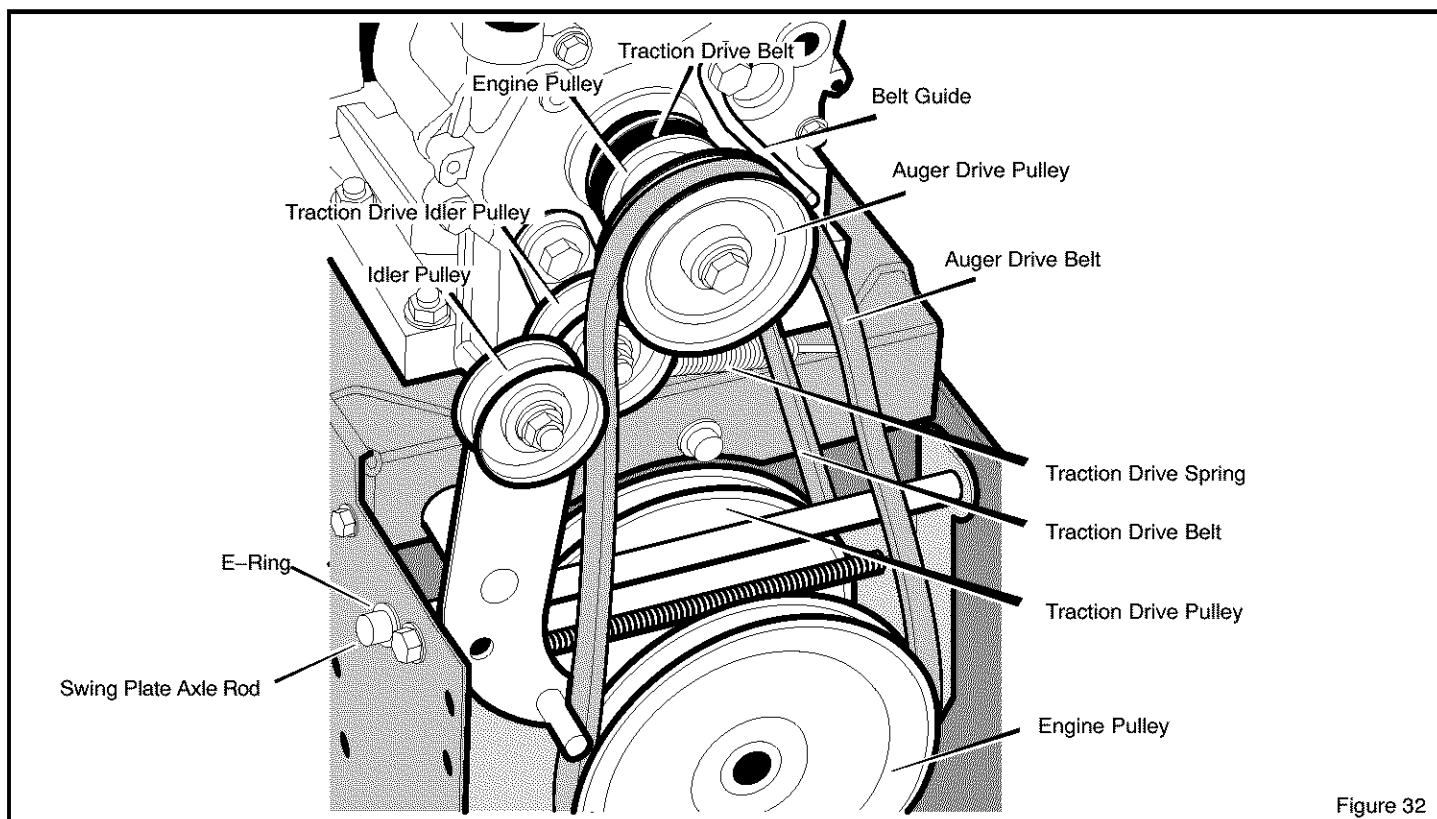

Figure 32
3. Loosen nut on auger idler pulley and move auger idler pulley towards belt about 1/8 inch (3 mm) (see Figure 32).
5. Loosen the **belt guide**. Pull the **belt guide** away from the **auger drive pulley** (see Figure 32).
3. Remove the **e-ring** from one end of the **swing plate axle rod**. Remove the **swing plate axle rod** to allow the swing plate to pivot forward (see Figure 32).